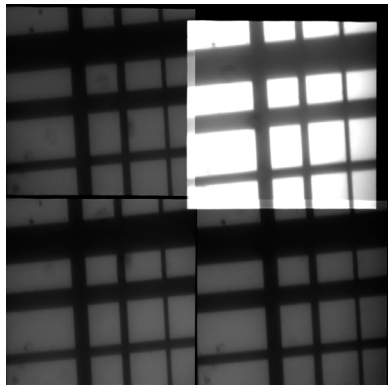

Figure 13. Correct positioning of upper left image.
6. Using the U/D and R/L knobs associated with the *upper left image*, move the image so that its top edge is aligned with the top edge of the CCD and its left edge is aligned with the left edge of the CCD (**Figure 13**).